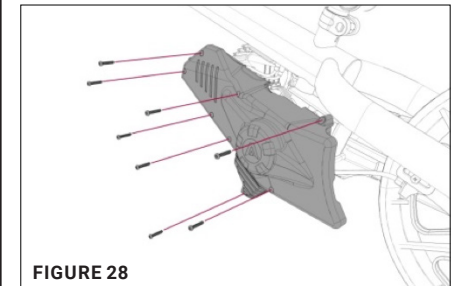

FIGURE 28
2. Remove the left side and left side protective cover. [Figure 28]